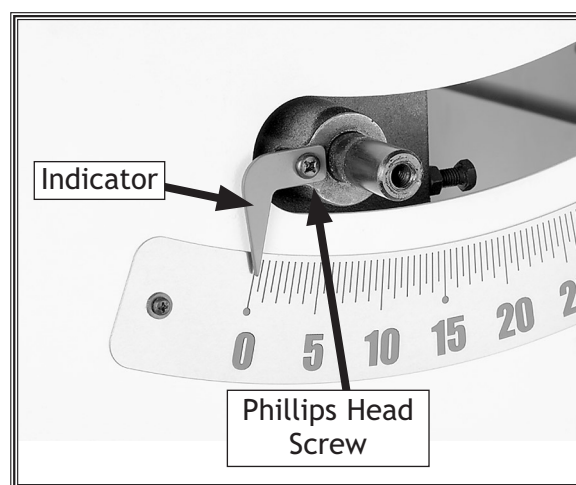

Figure 68. Tilt indicator arrow.
3. Loosen the Phillips head screw shown in **Figure 68** and move the tip of the indicator to 0°.